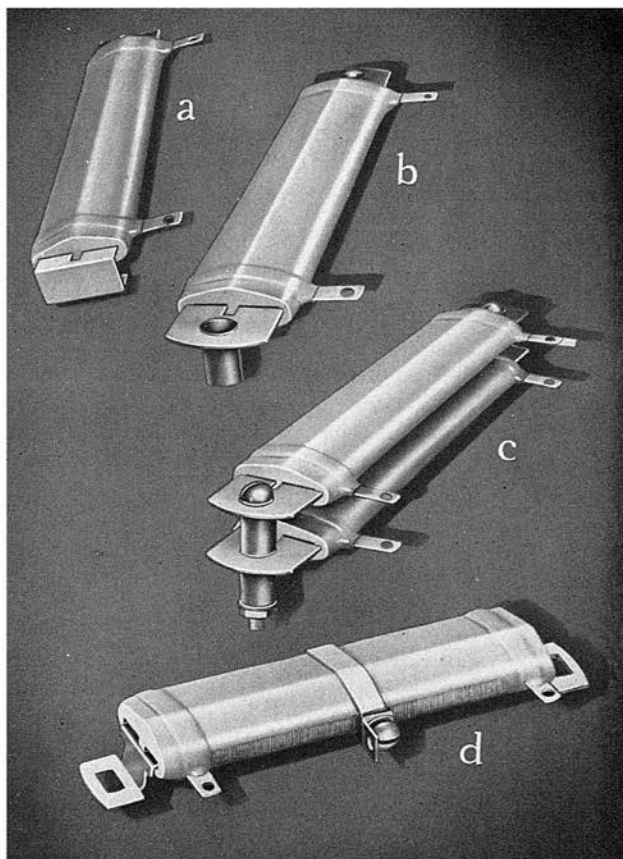

Figure 3-17. Typical Methods of Mounting Stripohm Resistors
2. *Methods of Mounting*—Several methods of mounting Stripohm resistors are illustrated in Figure 3-17. In all methods the mounting brackets, as mentioned previously, are of the spring-clip type. Figure 3-17b is the standard mounting for single Stripohm resistors of all sizes. Figure 3-17c shows how Stripohms are stacked using standard brackets. To increase the stacked rating, $\frac{1}{8}$ inch metal spacers (washers) should be inserted between units. The method used in Figure 3-17a is for mounting single Stripohm resistors where the overall length of the assembly must be minimized. The method shown in Figure 3-17d, though unsuitable for stacked mounting, is useful where the overall height of a single Stripohm unit must be less than that found on standard brackets.